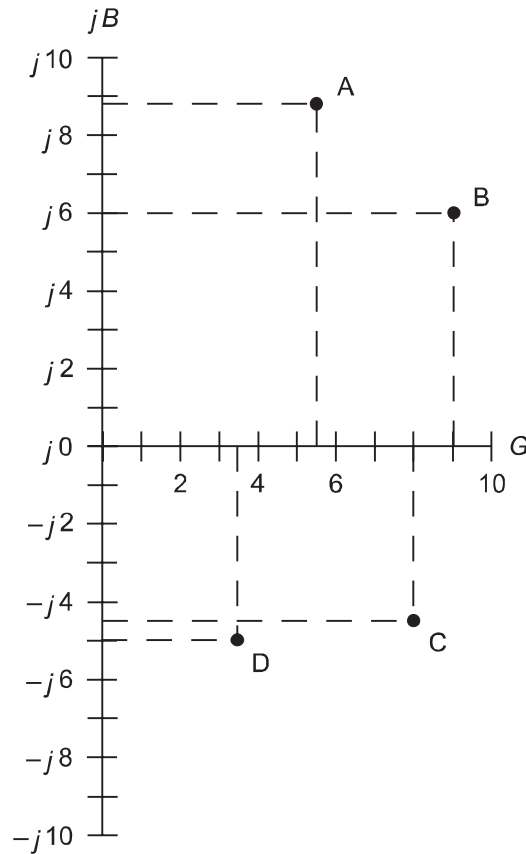
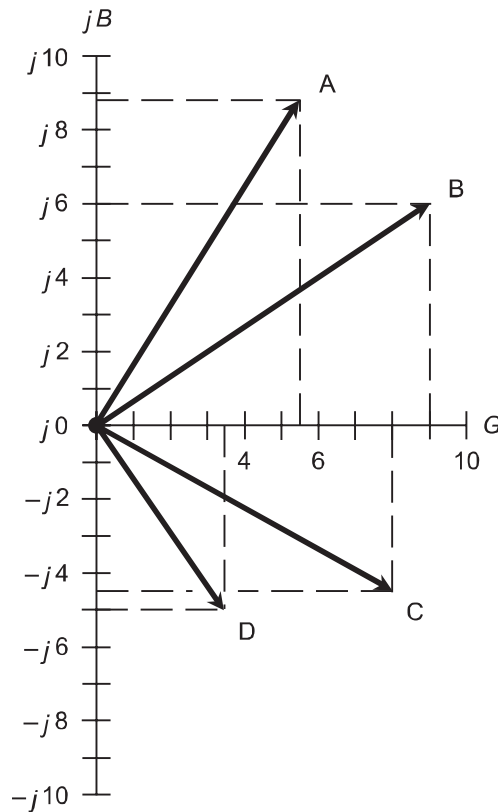

Fig. 3-20. Some points in the GB plane, and their components on the G and B axes. At A, $5.5 + j8.8$. At B, $9 + j6$. At C, $8 - j4.5$. At D, $3.4 - j5$.
Fig. 3-21. Some vectors in the GB plane. At A, $5.5 + j8.8$. At B, $9 + j6$. At C, $8 - j4.5$. At D, $3.4 - j5$.
Admittance can be depicted on a plane that looks like the complex impedance (RX) plane. Conductance is plotted along the horizontal, or G , axis, and susceptance is plotted along the B axis (Fig. 3-20).
Complex admittances can be shown as vectors, just as can complex impedances. In Fig. 3-21, the points from Fig. 3-20 are rendered as vectors. Longer vectors indicate, in general, greater flow of current, and shorter ones indicate less current.